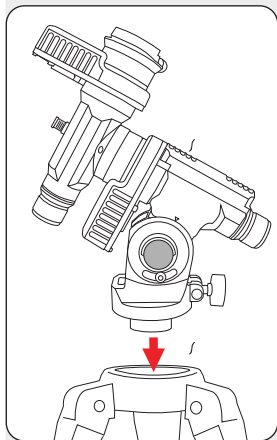

Fig. 9: Fitting the mount head
7.1. COMPONENT OVERVIEW OF THE MOUNT (FIG. 9)
- (14) Mount head with mounting ring (14 a)
- (15) Circular bubble level
- (16) Latitude adjustment screw with latitude scale (16 a)
- (17) RA clamp
- (18) On/off switch
- (19) Connection panel (details: see 11.)
- (20) Clamping screw for the optical tube rail
- (21) Dovetail guide for the optical tube rail
- (22) Polar finder aperture with blanking plug (22 a) (23) DEC clamp with internal thread (23 a)
- (24) Counterweight shaft
2. Insert the mount head (14) with the mounting ring (14 a) into the mounting aperture (1 a) of the tripod head and hold it firmly with one hand (Fig. 9).